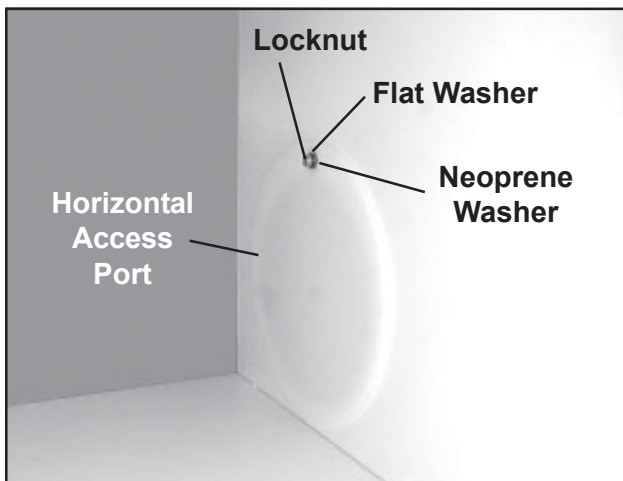

Figure 49. Horizontal Access Port & Washers
3. With a 7/16 in. wrench, remove the hex locknut holding the access port to the cage wall (Figure 49).